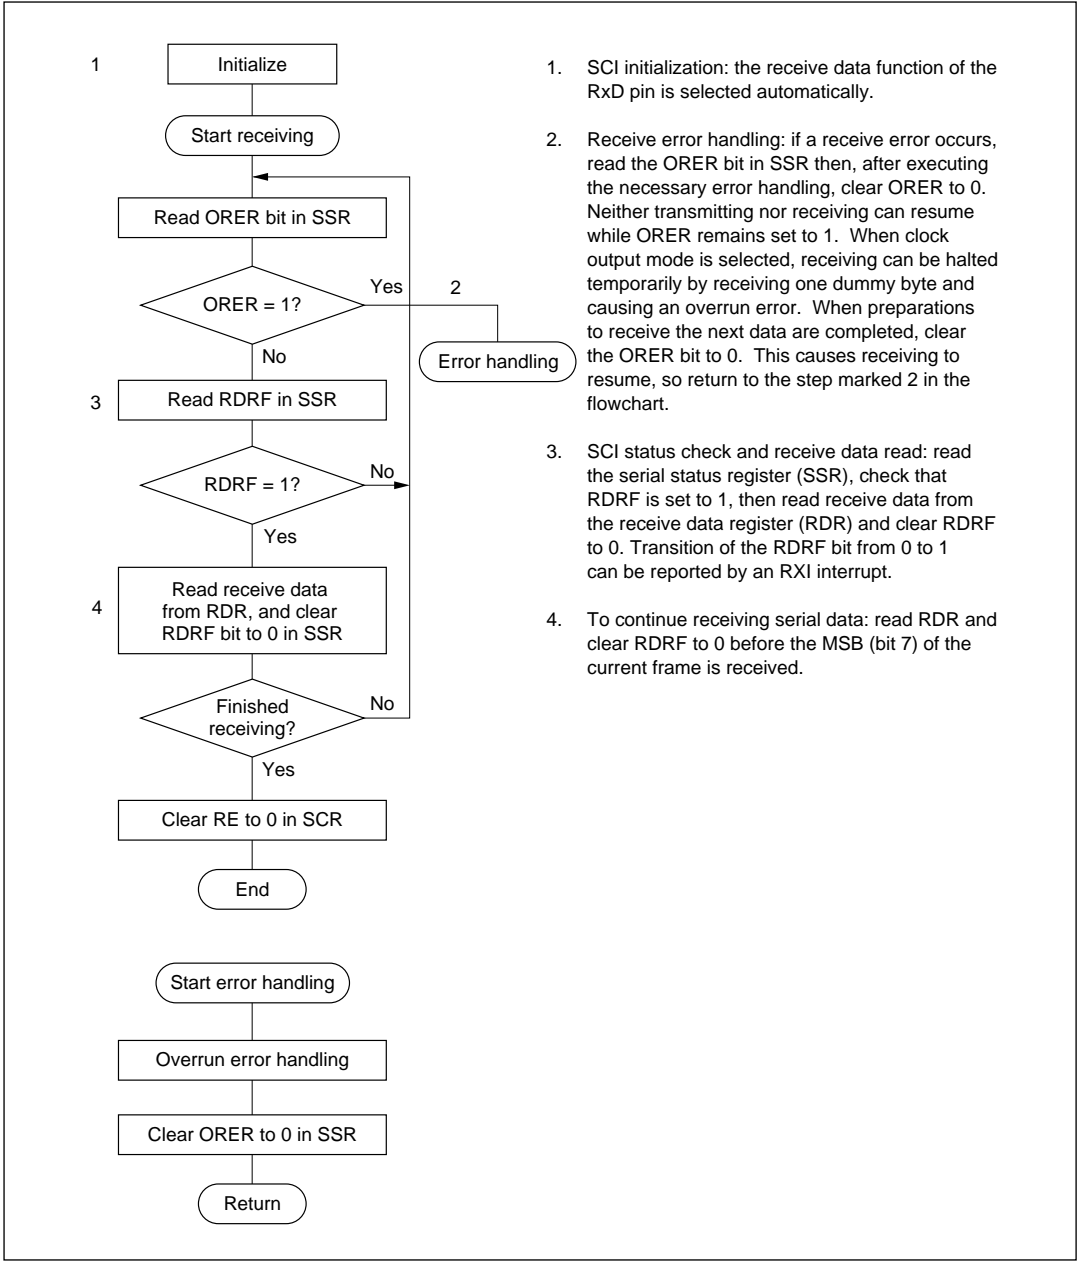

Figure 11-15 Sample Flowchart for Serial Receiving
- Receiving Serial Data:** Follow the procedure in figure 11-15 for receiving serial data. When switching from asynchronous mode to synchronous mode, be sure to check that PER and FER are cleared to 0. If PER or FER is set to 1 the RDRF bit will not be set and both transmitting and receiving will be disabled.